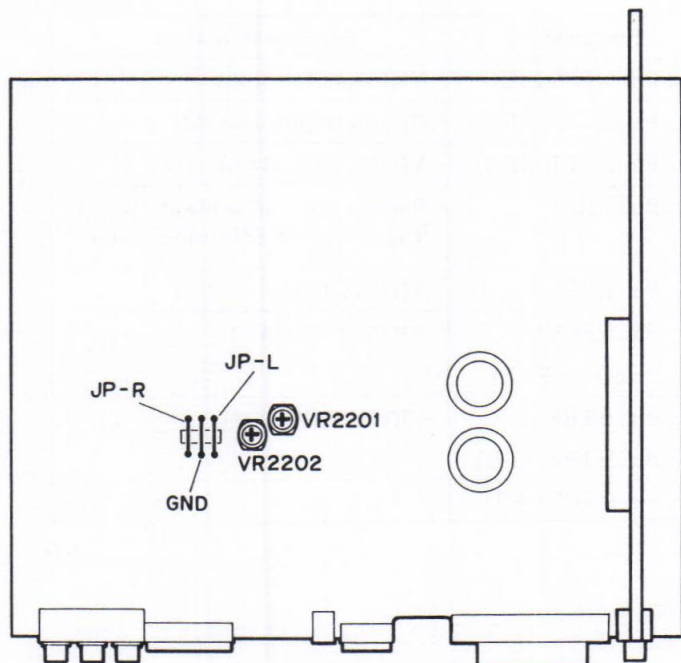

Fig. 5-4 AF assembly
10. The AF assembly contains JP-L and JP-R.(See Fig.5-4)